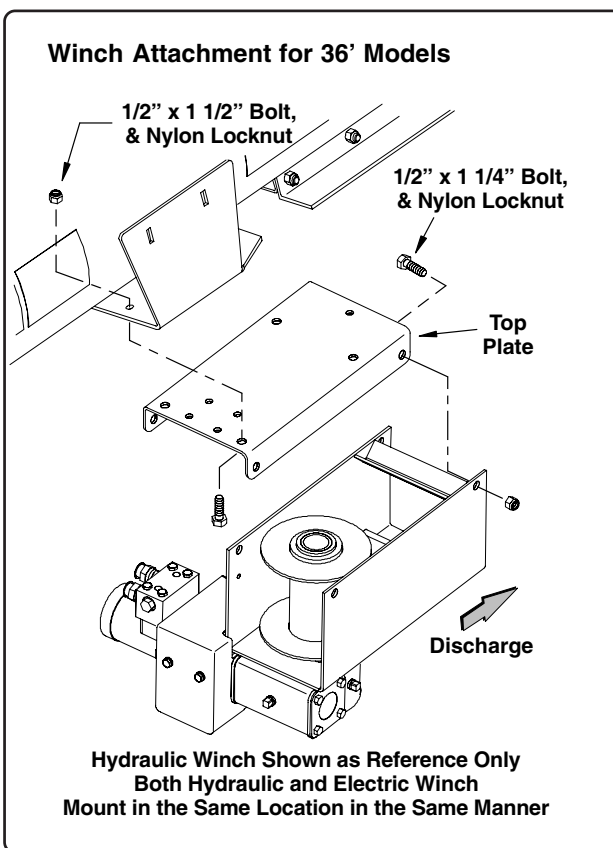

Fig. 39
1. Remove and retain the four (4) 1/2" x 1 1/4" bolts and nylon locknuts securing the top plate to the winch sides.
**For 36' Models:** Attach the top plate to the winch mount plate on the main auger housing using four (4) 1/2" x 1 1/2" bolts and nylon locknuts (install bolts from the bottom side of the plate, See Fig 39).